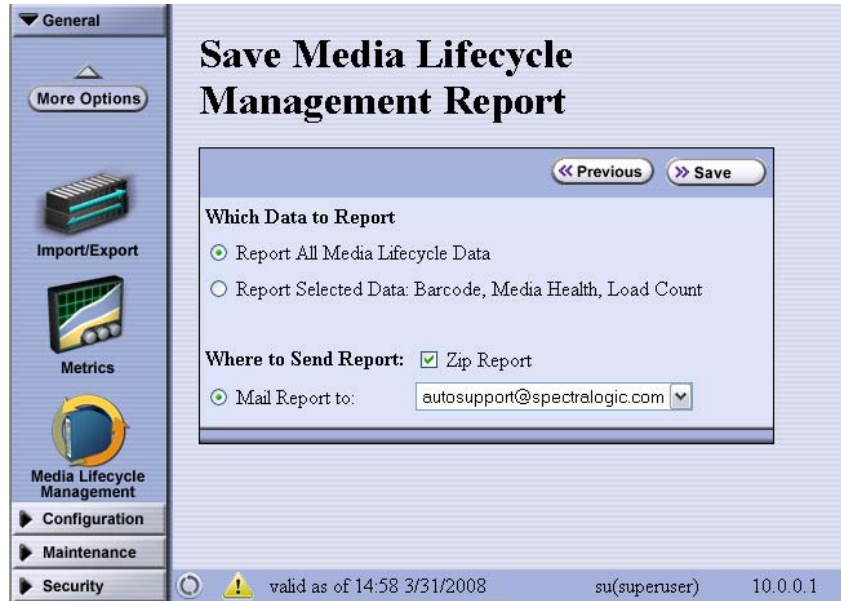

Figure 3
- Choose which information is most relevant when saving reports. During the export process, you must choose between saving all MLM data (Fig. 3) or just the data that’s included in the most recently viewed report. The data will save as comma delimited format for export into any spreadsheet software.